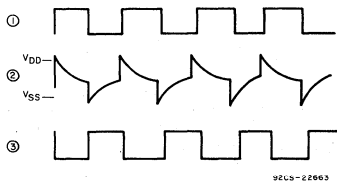

Fig. 2—RC oscillator operating waveforms.
RCA COS/MOS parts, i.e., CD4007A, CD4001A, CD4011A, etc.) and a single resistor and capacitor. The operating waveforms for this circuit are shown in Fig. 2.
increasing or decreasing with discontinuities equal in magnitude to  $V_{DD}$  during the instant of switching. However, since point (2) is protected by a standard input-protection circuit common to COS/MOS devices, the waveform is clamped at one diode voltage drop above  $V_{DD}$  and below  $V_{SS}$ . (Refer to waveforms in Figs. 2 and A1.) The calculations for the period of this multivibrator circuit are shown in Appendix A; the final equation for the period  $T$  is